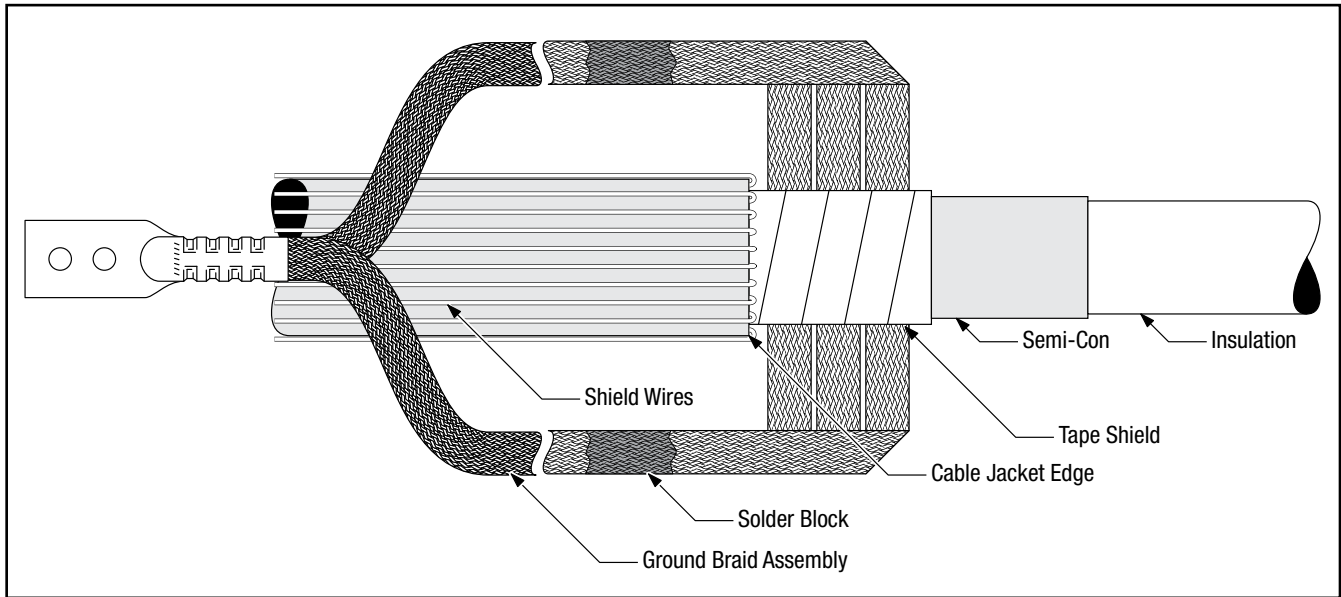

Figure 12
- 4.1 Fold the shield wires back along the cable jacket. Select the pre-formed ground braid assembly from the kit. Pass the end of the cable through the ground braid assembly loop, and position the ground braid assembly around the tape shield as shown. (Figure 12)